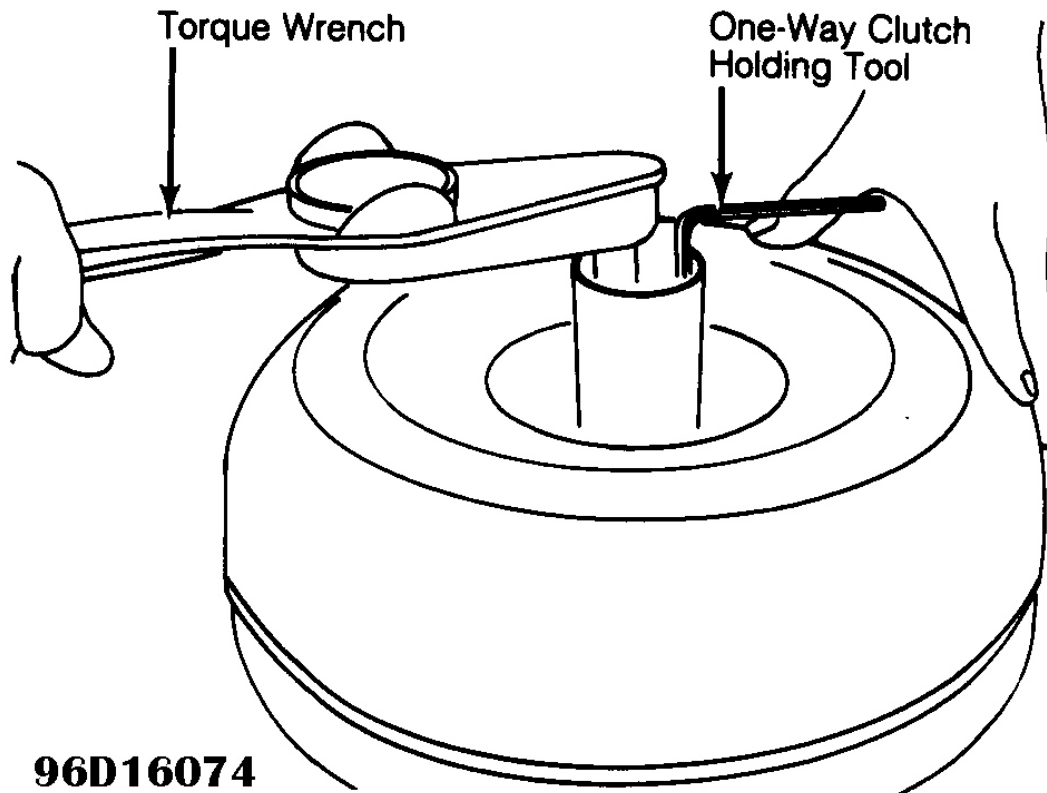

Fig. 13: Stator One-Way Clutch Check
1. Insert one-way clutch holding tool into one of the grooves in the stator thrust washer. Insert Torque Adapter (T83L-7902-A1) into converter pump drive hub so as to engage one-way clutch inner race. See **Fig. 13**.